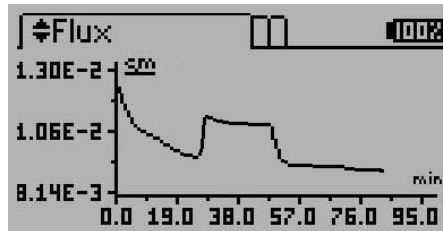

Figure 15 Flux screen
- **Flux Screen.** The Flux screen displays the flow rate of water flow through the infiltrometer on a graph updated every minute (Figure 15). The current measurement is indicated by a flashing dot.